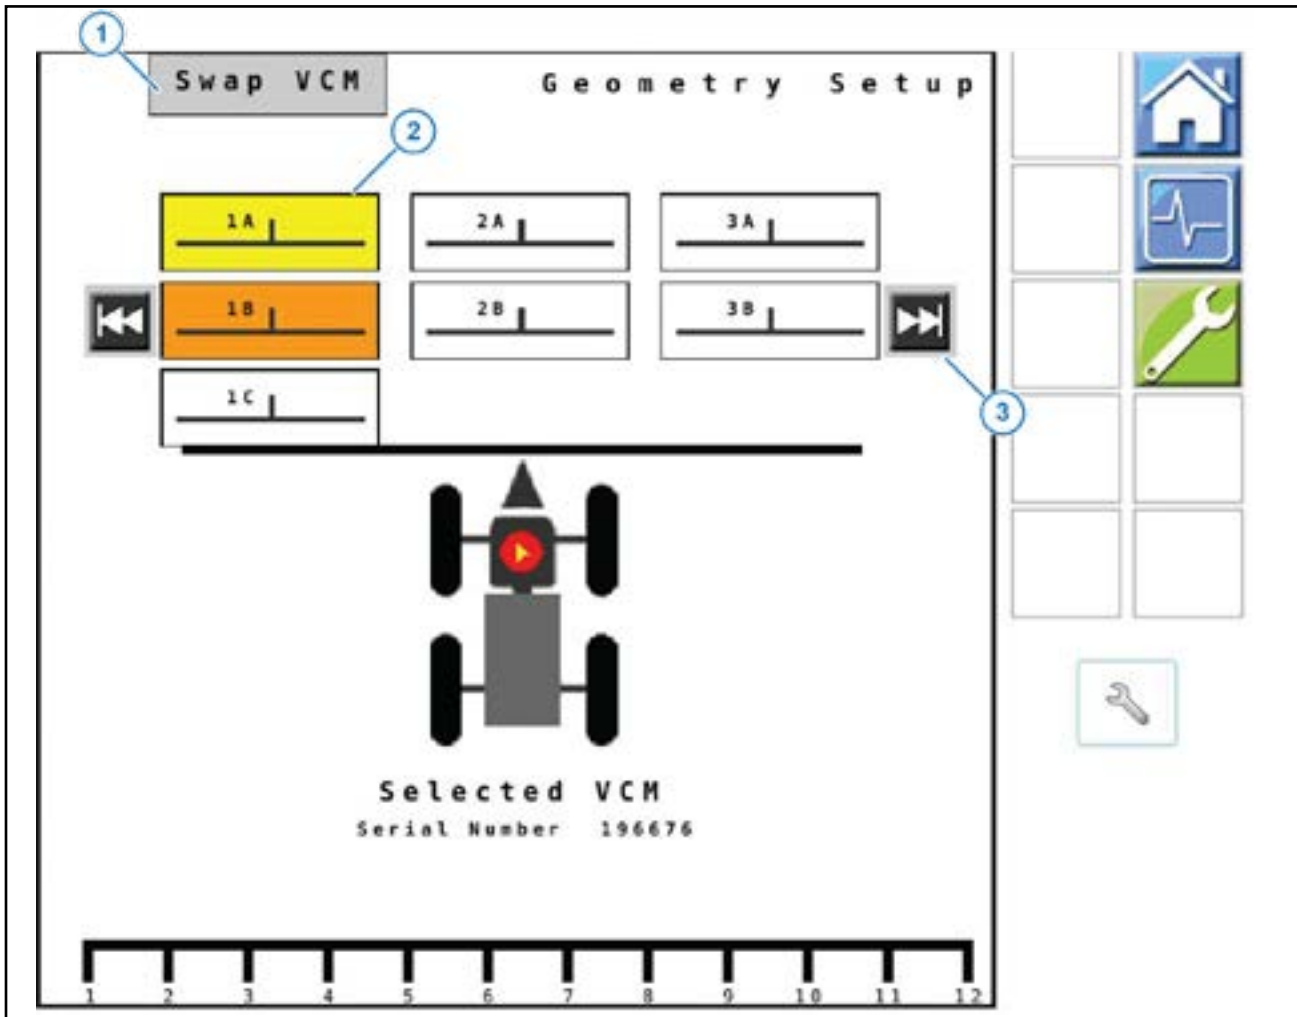

Figure 20: Geometry Setup - Leap Start VCMs
1. If there is more than one Leap Start VCM on a section, you can change their positions. A Swap VCMs icon will show at the top of the screen (Figure 20, Item 1). To do this, tap one of the VCMs (Figure 20, Item 2) will highlight yellow); tap another VCM on the same channel (will highlight orange); tap the Swap VCM button.
2. Select  (Figure 20, Item 3) to go to the next VCMs in sequence.